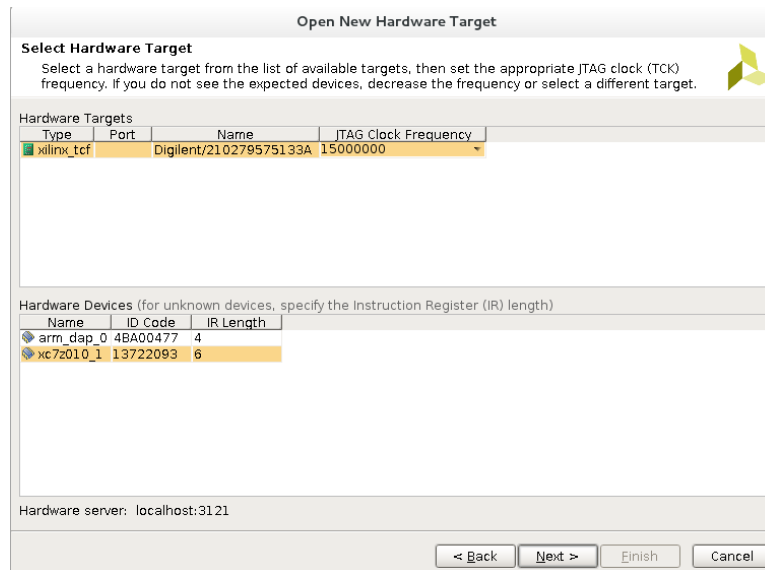

Figure 4: Hardware Target
- (b) Once the bitstream generation is completed, we need to download the bitstream to the FPGA on the ZYBO board. Turn on the power to the ZYBO board and make sure that the jumper JP5 is set in 'JTAG' mode. In the 'Flow Navigator' window, under the 'Program and Debug' panel click on 'Open Hardware Manager'. Click on 'Open Target' and in the pop up select 'Open New Target' which will open the 'Open New Hardware Target' window. Click 'Next'. select 'Local Server' in the 'connect to' field. Click 'Next'. Select 'xilinx.tcf' in Hardware Targets and 'xc7z010\_1' in Hardware Devices as in (Figure 4). The 'arm\_dap\_0' device is ARM Cortex Processor which is not needed for this lab. Click 'Next' and go through the summary and Click 'Finish'. Click on 'Program Device' under 'Hardware Manager' and select the FPGA 'xc7z010\_1'. Click 'Program' to program the FPGA on the ZYBO board.